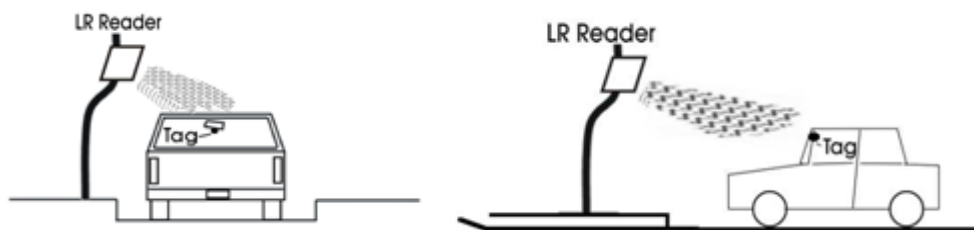
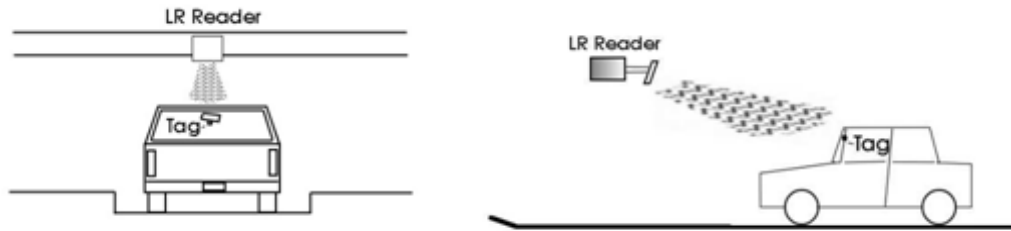

Figure 4 Passenger vehicles -- reader beside lane
Figure 5 Passenger vehicles -- reader above lane
1. Mount the reader so that it faces the WS-UHF tag at the “sweet spot” reading location. See Figures 4 and 5 for typical uses.
If the reader is *beside the lane*, mount the reader as close to the edge of the lane as possible without damage to the reader. Choose the left side of the lane when possible, because this side is easier for the driver (in right-lane-driving countries) to judge the vehicle's location relative to the left edge of the lane. Mount the reader on an adjustable bracket at a height of about 7 feet (for small cars, 6 feet may suffice). Attach or hold a UHF card or tag on the same side of the vehicle as the reader. Aim the reader at the tags when they are at the "sweet spot" – about 10 to 15 feet direct measurement from reader to tag as the vehicle approaches the reader. See Figure 4.
If the reader is *centered above the lane*, as inside a parking structure, mount the reader on an adjustable bracket at the lowest height that assures safe clearance between the reader and the highest vehicle. Hook a HT-UHF Hangtag over the inside rear-view mirror's stem, or attach an RV-UHF tag to the back of the mirror facing the reader, or adhere a WS-UHF Windshield Tag to the upper center of the windshield, behind the mirror, several inches below the top of the windshield. Aim the reader at the tags when they are at the "sweet spot". See Figure 5
This application is a variation of Section 8.2. The reader beside the lane should be at about 7 feet height; the reader above the lane must be raised to clear the higher vehicles. Mount the tags and cards in small vehicles (sports cars) higher than in larger vehicles (SUVs). This places the tags and cards for all vehicles at about the same position relative to the reader. See Figure 4 and Figure 5.
Follow the general suggestions for vehicles in Sections 8.2 and 8.3, regarding the location of the reader mounting (beside the vehicle lane or over the center of the lane). Select the UHF card or tag that performs best in the combination of vehicle lanes, vehicle types, reader locations, and credentials characteristics. See Figure 4 and Figure 5.